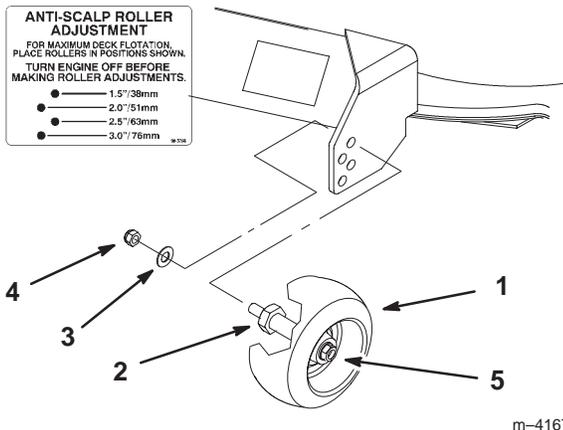

Figure 17
2. After adjusting the height-of-cut, remove the nut and washer while holding the stud with a wrench (Fig. 17).
Note: Do not remove the wheel nut and washer (Fig. 17).
3. Select a hole so that the gage wheel is positioned to the nearest corresponding height-of-cut desired (Fig. 17).
- Reinstall the stud nut and washer (Fig. 17).